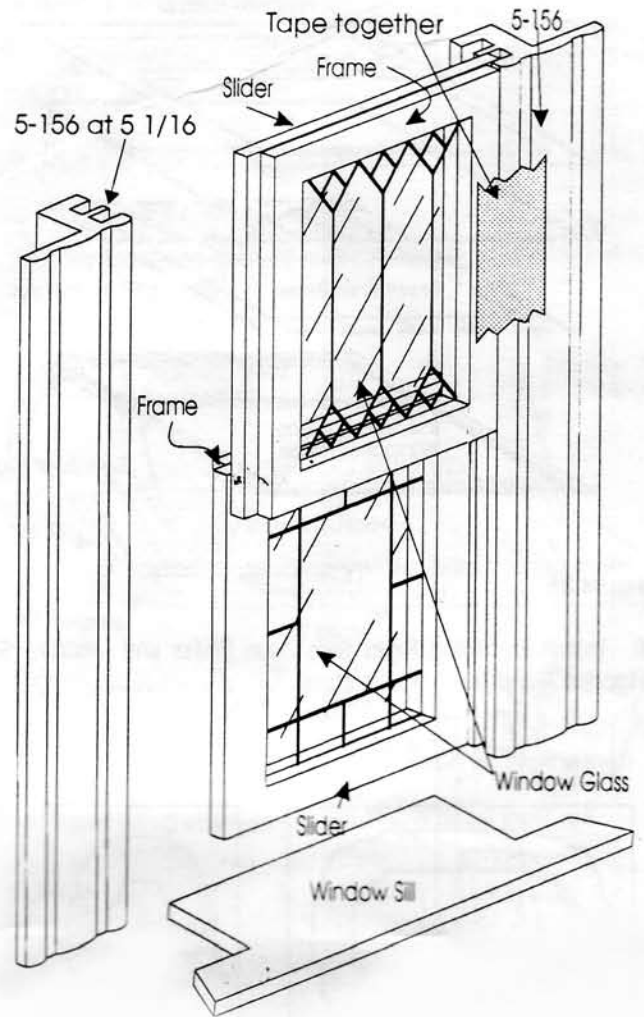

Figure 25
3. Assemble top and bottom sliding window assemblies with 5-156. Install Window Sill. Install window assembly. See Figure 25.